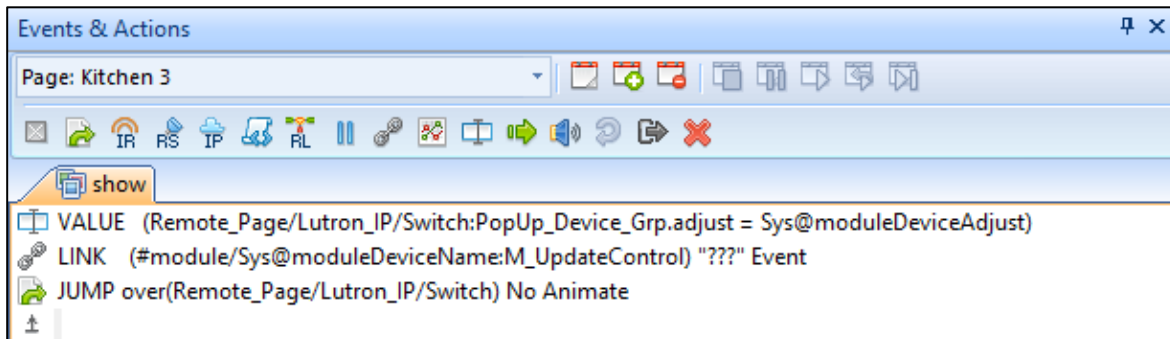

Figure 27 - Page's "Show" Event
- b. For the new page, under Events and Actions, create a “show” event and add these three actions in this order: GUI Action, Link Action, and Page Jump Over Action (Figure 27).